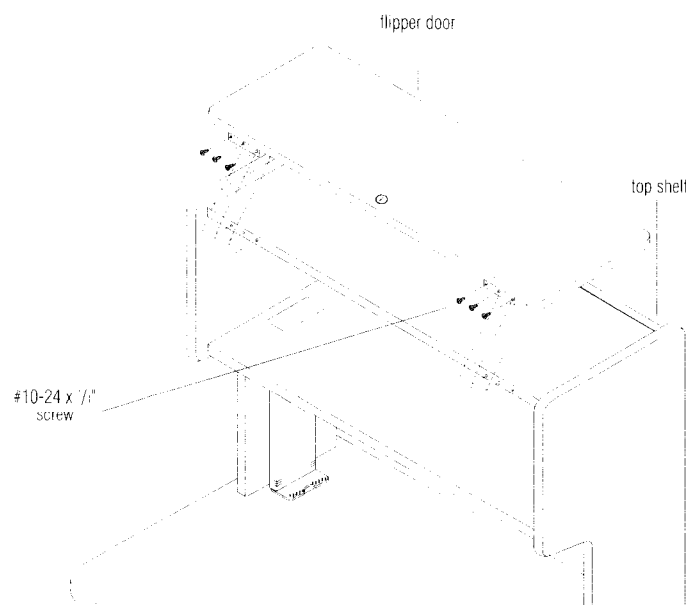

Figure 6
16. Turn flipper door over and position it onto the top shelf as shown with the keyed lock to the front. Align the three holes of each hinge with the pre-drilled holes in the top shelf. Fasten, but do NOT tighten, the hinges to the top shelf with three #10-24 x $\frac{1}{2}$ " per hinge. Center the flipper door to the opening for free movement and tighten screws. Close door to check for proper alignment and adjust as necessary (Figure 6).